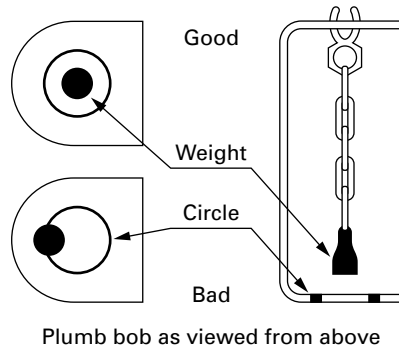
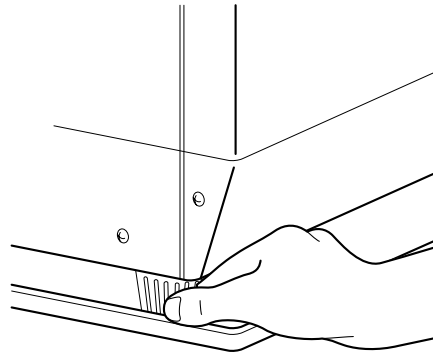

Fig. 13
Fig. 14
11. Ensure the heater is level by using the "plumb bob" located at the right side of the heater. When viewed from above, the plumb bob "weight" should be within the circle. If not, adjust the heater "feet" until the plumb bob weight is within the circle (See Fig. 13 and Fig. 14).